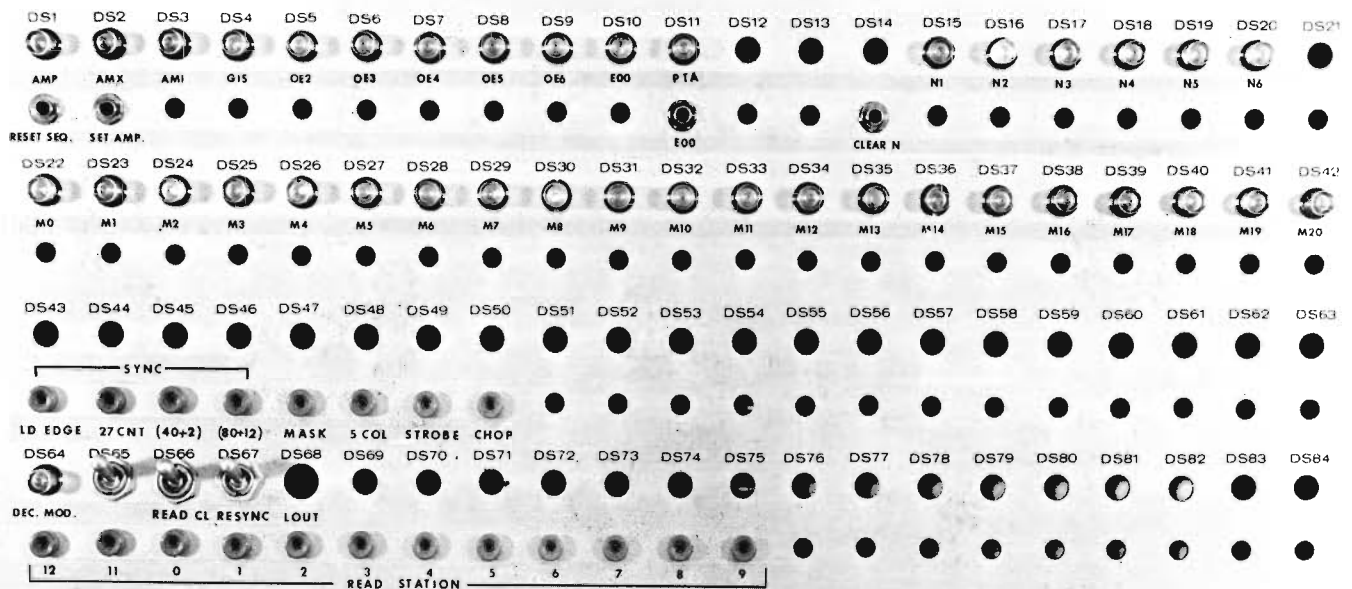

Figure IV-2. The Maintenance Panel of the Central Processor
- A. **MAINTENANCE PANEL.** The maintenance panel of the central processor, illustrated in Figure IV-2, is located inside the door which is above the control console. It is used mostly by service